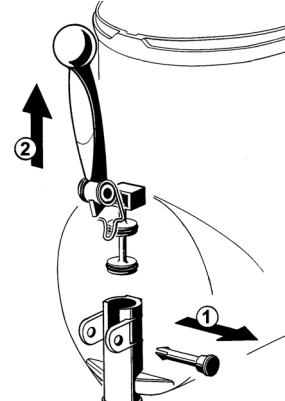

figure 13
- 5 - Remove the faucet assembly sliding the pin and pulling up the handle. (see figure 13).
- 3 - Assemble the faucet by reversing the disassembly steps (see figure 13)